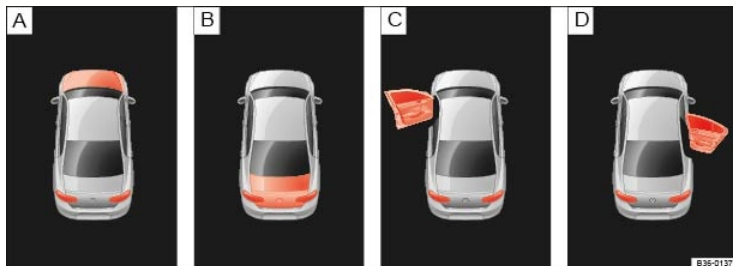

Fig. 13 In the instrument cluster display (color version): : Open engine hood, : Open trunk lid, : Open front driver side door, : Open rear passenger side door.
- Open doors, engine hood, or trunk lid ⇒ Fig. 13, ⇒ Fig. 12
Key to ⇒ Fig. 13 , ⇒ Fig. 12 :
Key to ⇒ Fig. 13, ⇒ Fig. 12: